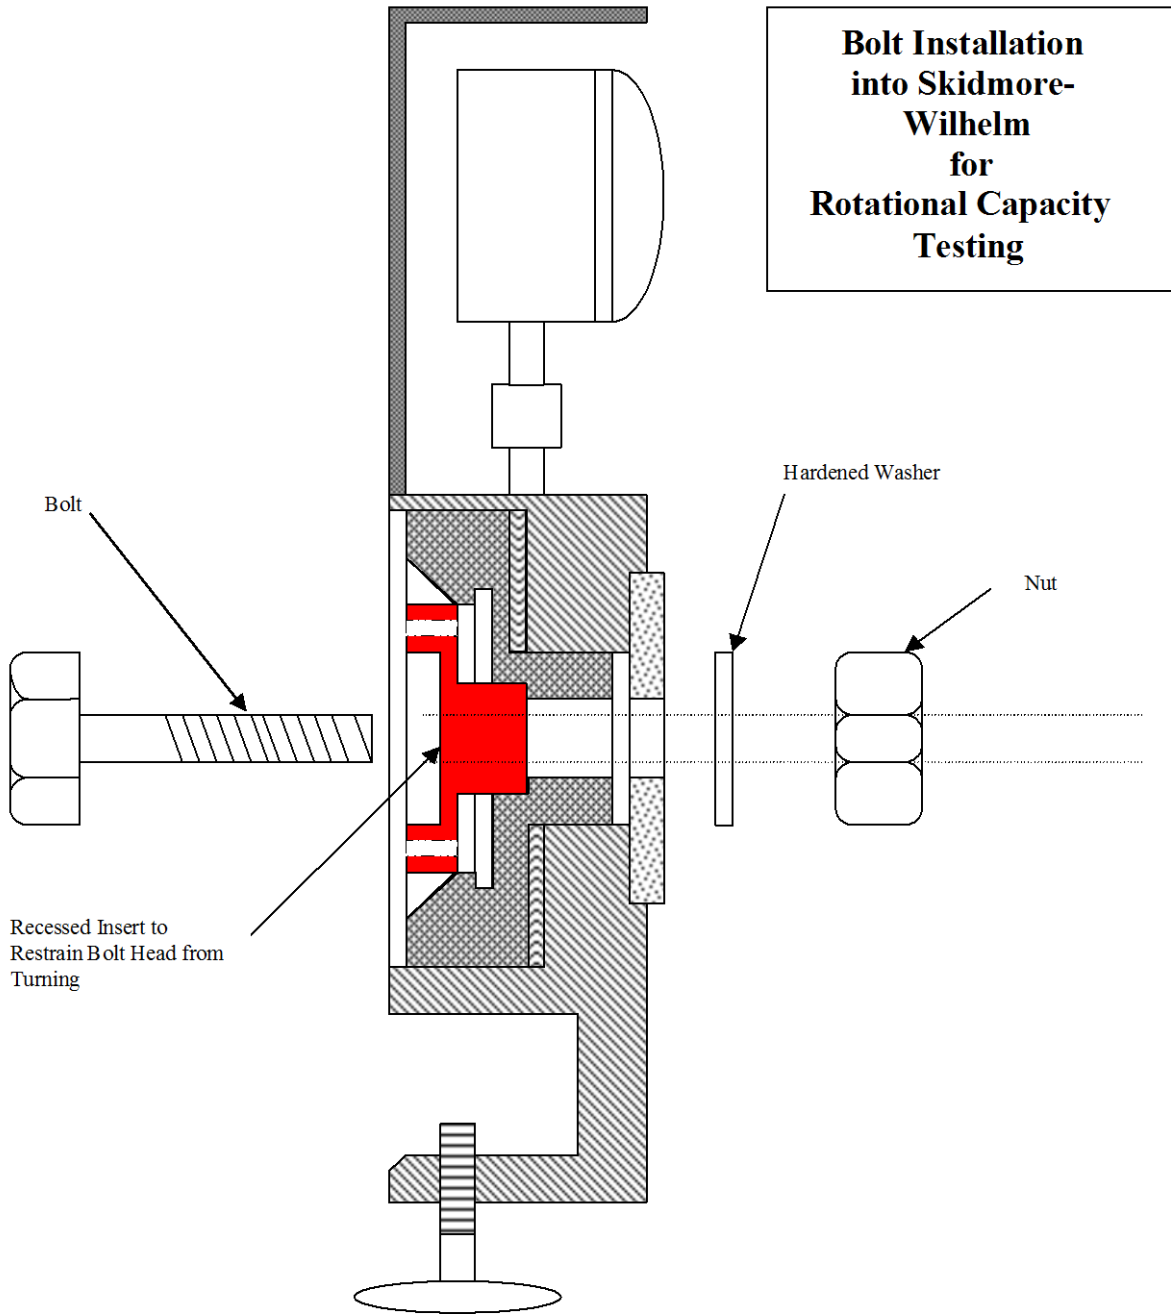

Figure 3
- C. The bolt, nut, and washer shall be assembled into the calibrated bolt tension measuring device as shown in figure 3. Face plates, bolt rotation prevention inserts (If available), and spacers with standard holes shall be used. (Standard hole diameters are nominally 1/16" larger than the nominal bolt diameter.) The bolt shall be of sufficient length and installed utilizing sufficient shim plates and/or washers (One washer under the nut must always be used) such that 3 to 5 threads are located behind the bearing face of the nut as shown in figure 3.